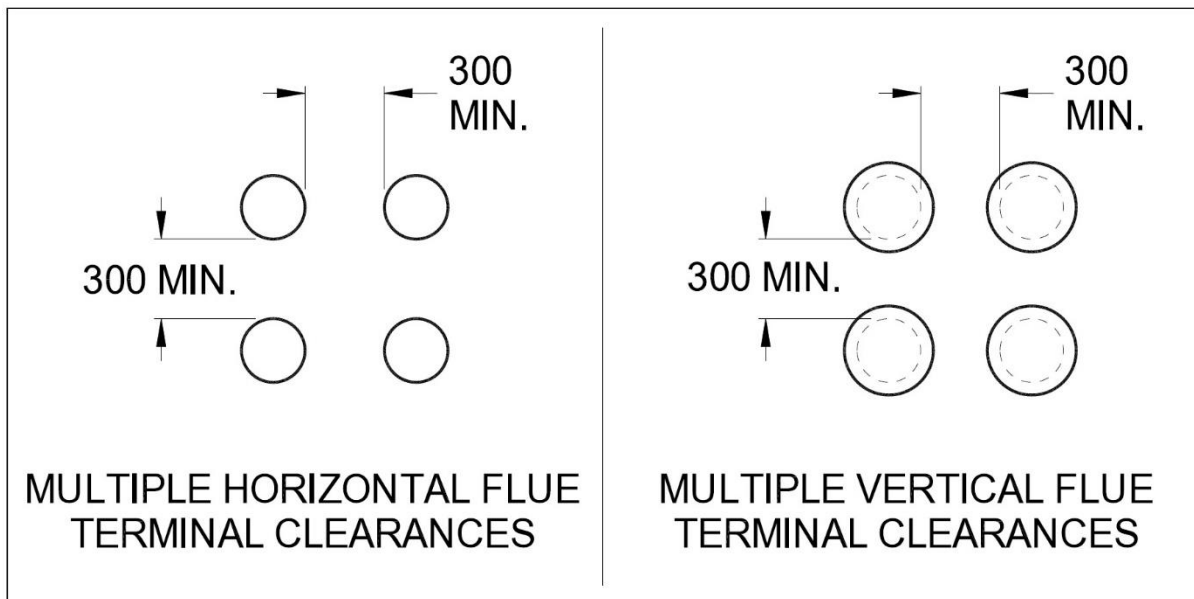

Fig.18: Horizontal Flue Terminal Configurations
10. For multiple water heater installations, observe the terminal clearances as shown in Fig 18 on page 45.
9. For multiple water heater installations, observe the clearances as shown in Fig 18 on page 45.